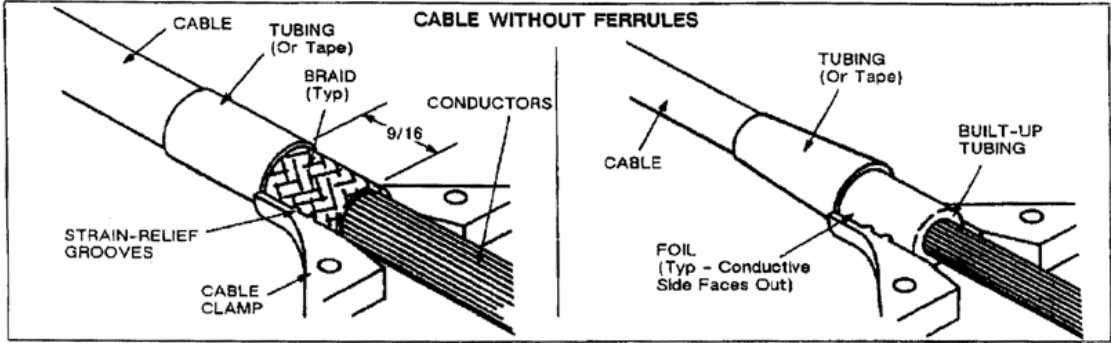

Fig. 3
CAUTION If cable diameter is too small to fit properly into strain relief, apply heat-shrinkable tubing before working braid over cable jacket to build up the outside diameter of the cable. The inside diameter of the heat-shrinkable tubing should be no more than twice the outside diameter of the cable. See Figure 3.
3. ATTACHING CABLE CLAMP ASSEMBLY (Figure 3)
ductors. See Figure 3. Refer to Instruction Sheet IS 2807 for proper application of tubing. Use an electric heat gun as the heat source.